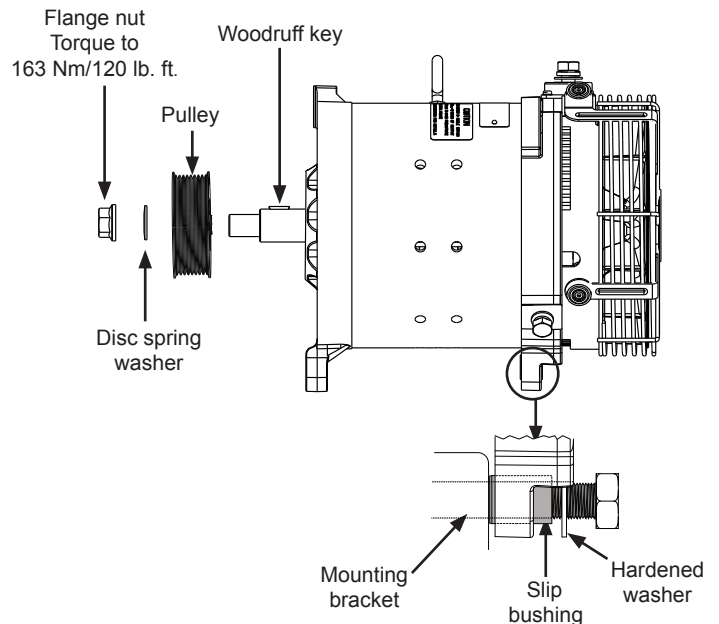

Figure 2: C812 Alternator Installation
2. Install pulley, disc spring washer, and flange nut on shaft, in that order. See Figure 2. Torque flange nut to 163 Nm/120 lb. ft.
CAUTION Slip bushing in rear mounting foot must be tightened against mounting bracket to prevent damage to mounting feet and bracket. See Figure 2.